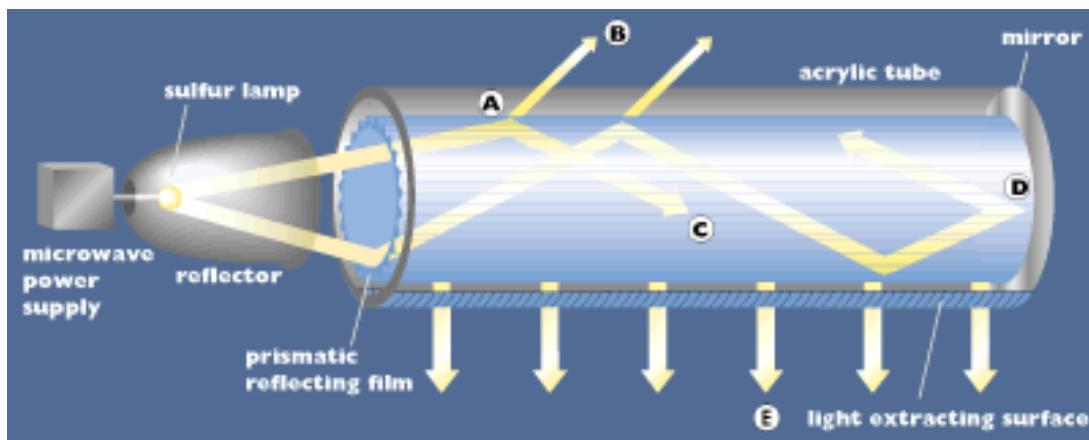

Figure 4 - Sulfur HID Light with Light Tube Diagram
- Figure 4 – Sulfur HID Light with Light Tube Diagram
The HID light may also be used with a light pipe, as illustrated in **Figure 4**. The light given off by the sulfur bulb passes into a reflector. The purpose of the reflector is to direct the light into the light tube. Light enters the light tube as a cone. The light tube is an acrylic tube and a mirror at the opposite end from the sulfur lamp. The inside of the tube is coated with a prismatic reflecting film. As light strikes the inside of the tube (A in **Figure 4**), most is reflected into the tube (C), though some can escape through the tube (B). The light that escapes makes the tube appear to glow. Light that travels all of the way down the pipe is reflected back along the tube by the mirror (D). In addition, a portion of the surface of the tube is covered with a light-extracting surface. This surface permits light to leave the pipe in a direction determined by the location of the light-extraction surface (E).